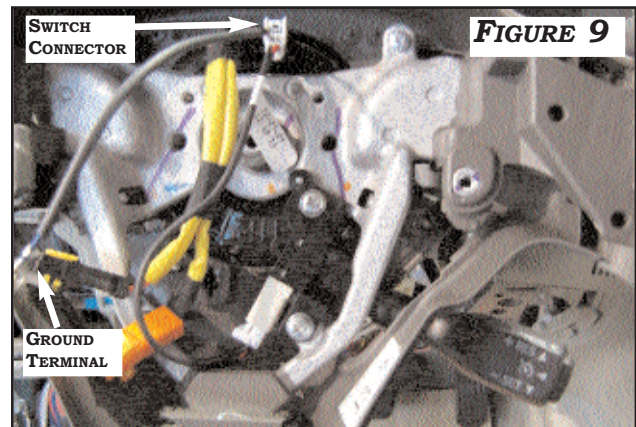

FIGURE 9
7. MOUNT CRUISE CONTROL SWITCH WITH TWO (2) PHILLIPS SCREWS PROVIDED. REMOVE GROUND TERMINAL AND DUMMY HORN/CRUISE CONNECTOR FROM STEERING WHEEL AND DIS CARD. PLUG IN CRUISE SWITCH CONNECTOR ENSURING TO RECONNECT GROUND TERMINAL. **FIGURE 9**